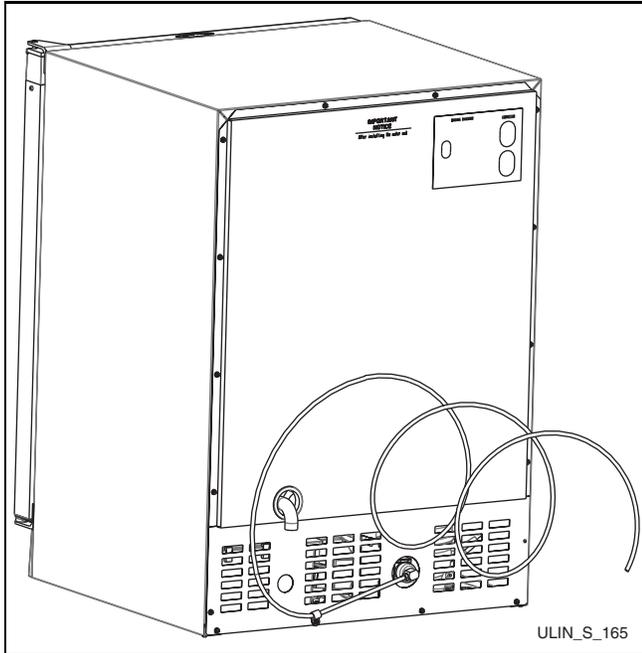

Figure 30
- Leave approximately 8' of water line to be coiled behind the appliance (see **Figure 30**). The water line should be looped into 2 coils. This will allow the unit to be removed for cleaning and servicing. However, make certain that the tubing is not pinched or damaged during installation.
1. Locate the desired cold water supply location. Attach a 1/4" copper line to this location and route the tubing to the appliance. Leave approximately 8' of water line to be coiled behind the appliance. The water line should be looped into 2 coils. This will allow the line to flex when removing the unit for cleaning and servicing (see **Figure 30**).